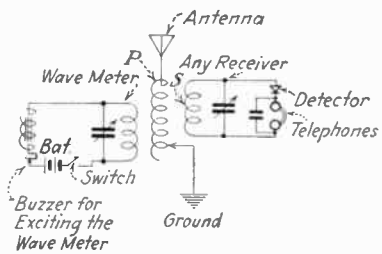

FIG. 43.—Tuning receiver with a wavemeter.
*Ans.* To calibrate a receiving set, the wavemeter must act as a transmitter. This is accomplished by means of a buzzer as shown in Fig. 43. First start the buzzer and tune the wavemeter to the lowest wave length to which the receiving set is to be tuned.